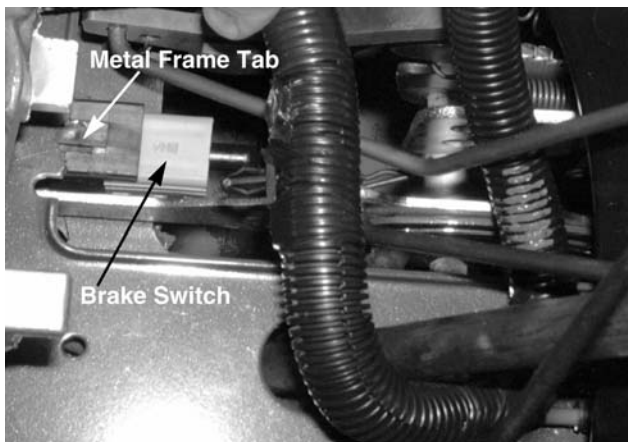

Figure 9-66
1. Locate and remove the brake safety interlock switch from the metal frame tab. See Figure 9-66.